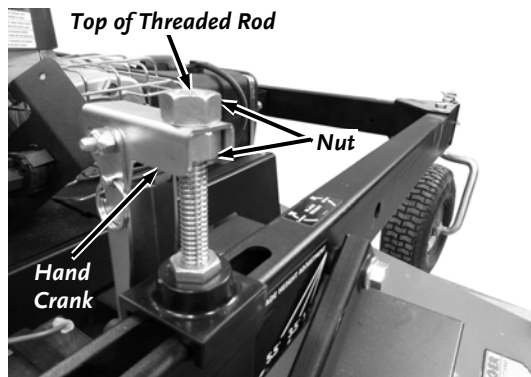

Figure 14
13. Install a Nut at the top of the Threaded Rod, followed by the Hand Crank and then another Nut (**Figure 14**).